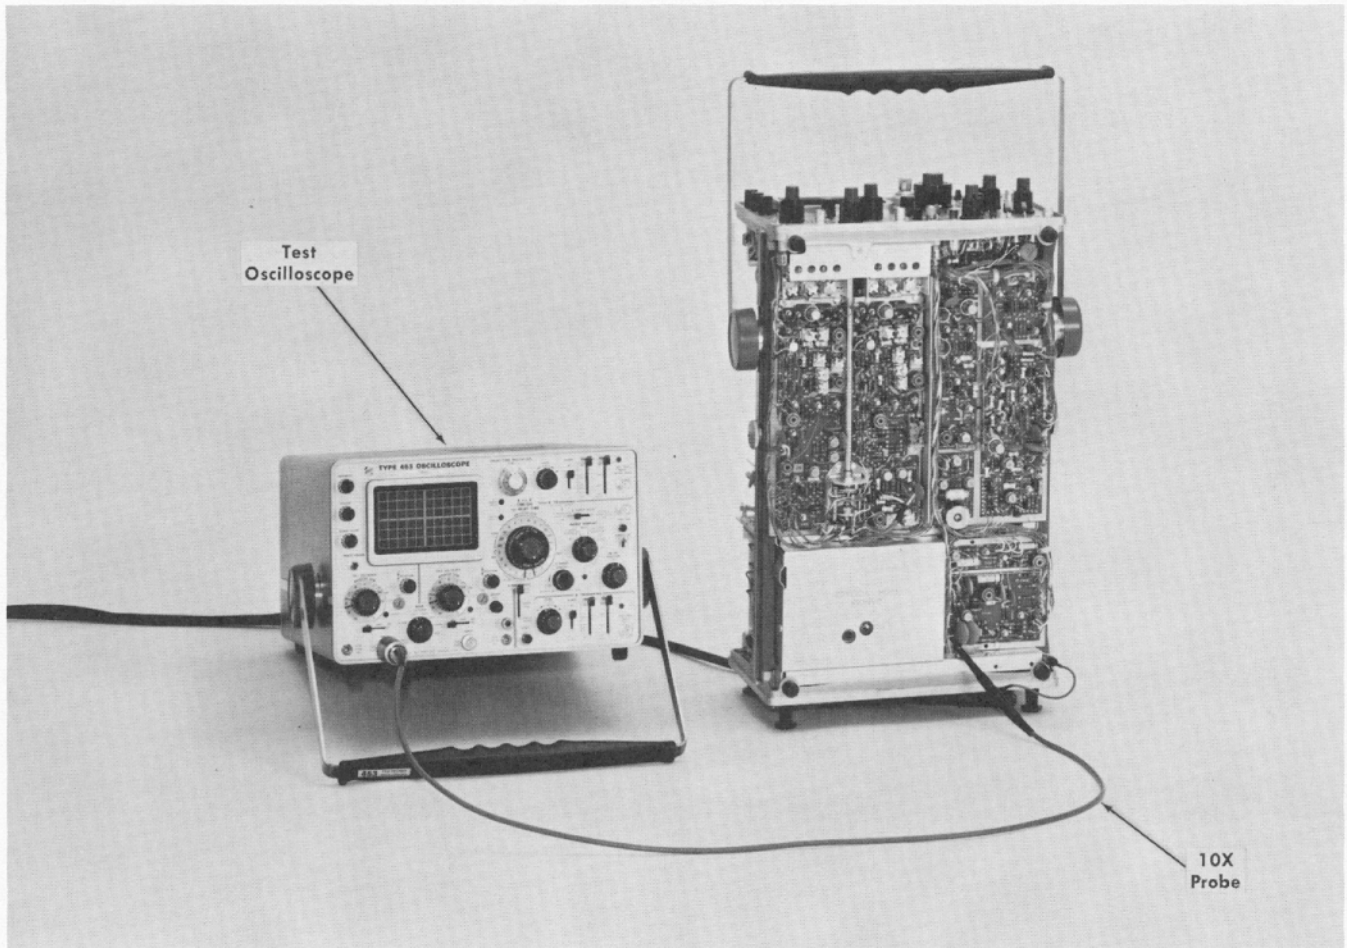

Fig. 6-11. Initial test equipment setup for steps 7 and 8.
7. Adjust Z Axis Compensation ❶
- a. Test equipment setup is shown in Fig. 6-11.